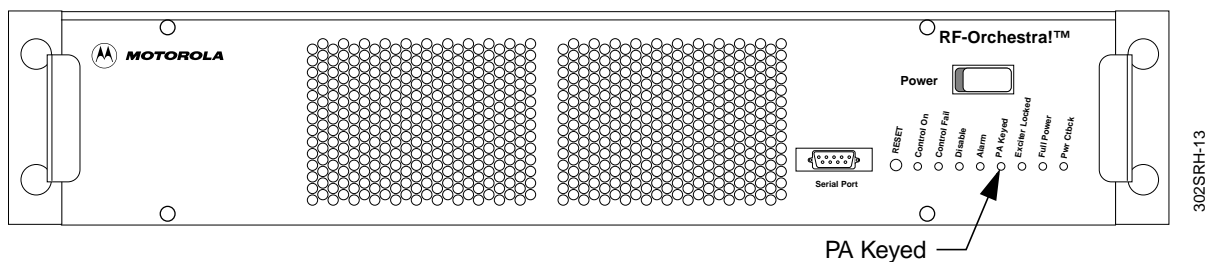

Figure 4-6: RF-O! transmitter Front Panel
15. Finally, verify that the RF-B! transmitter controller is keying the transmitter. Verify the PA Keyed LED (fourth LED from the right) on the RF-O! transmitter is On (see Figure 4-6).